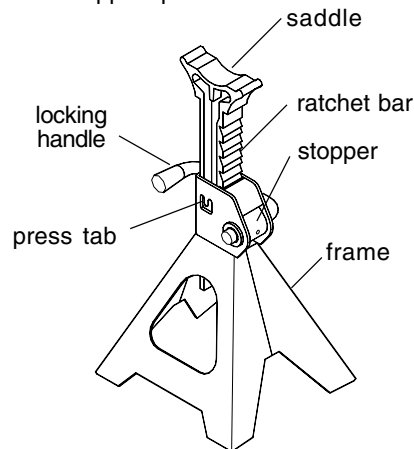
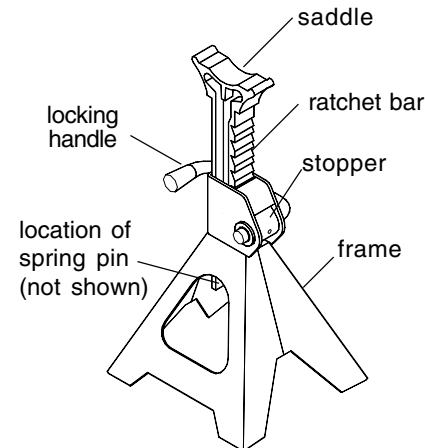

Figure 1 - Typical Jack Stand Nomenclature (with press tab)
Figure 2 - Typical Jack Stand Nomenclature (with pin to secure ratchet in collar)
2. Verify that the product and the application are compatible, if any doubt call Pro-Lift Customer Support @ (816)891-6390.
6. Ratchet/collar lock is accomplished by simply moving the press tab (Fig. 1) inward using a suitable hammer and punch. This will effectively prevent inadvertent loss of the ratchet bar. In the case of the T-6904, tap the provided spring pin into the hole in the end of ratchet bar (Fig.2) after step 5.